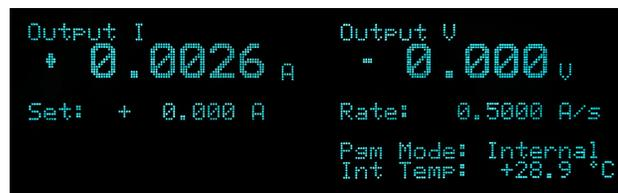

FIGURE 4-3 Model 643 display
The Model 643 has an 8 line by 40 character vacuum fluorescent (VF) display capable of showing both text and graphic images. The features displayed during normal operation include current measurement, voltage measurement, current programming, ramp rate, magnet water status, internal water status, program mode, and internal temperature. Other display configurations appear during parameter setting and data entry operations. These displays are illustrated in their individual operation paragraphs. A typical display is shown in FIGURE 4-3.